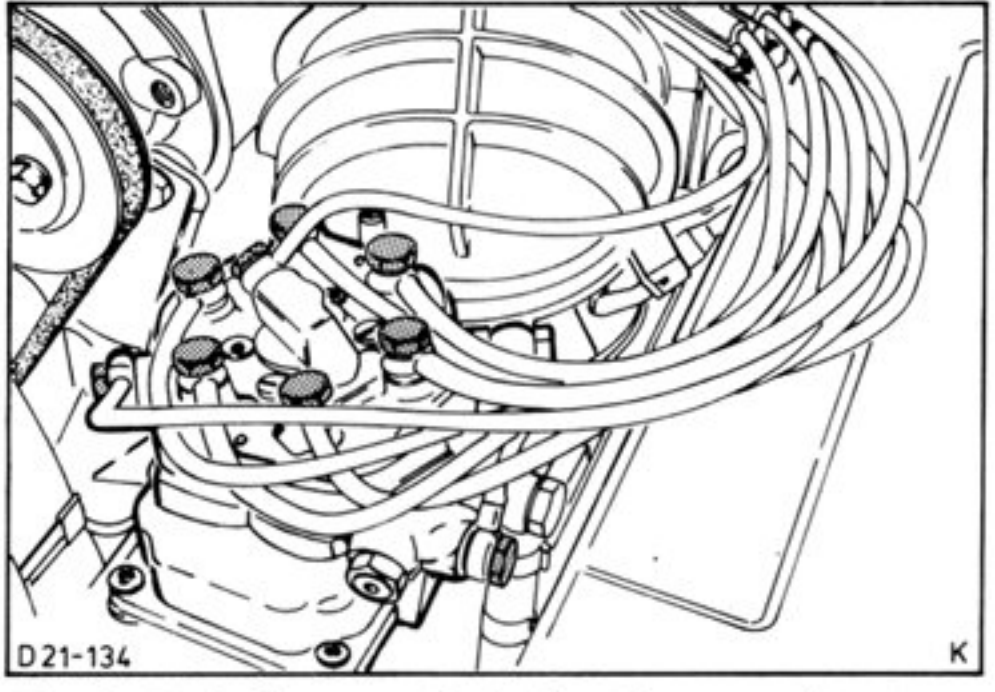

Fig.9. Fuel lines on fuel distributor unit.
8. Disconnect fuel lines from fuel distributor unit and close ends, Fig.9.